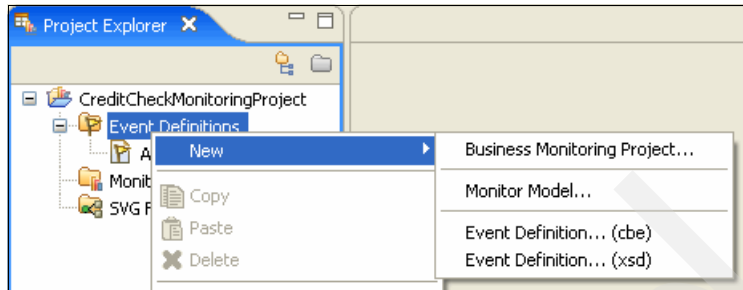

Figure 10-25 New event definition menu
1. In the Project Explorer view (Figure 10-25 on page 690), right-click the **Event Definitions** folder, select **New** → **Event Definition... (cbe)**. We use Common Base Event definitions for this example.
9. Create a second event called CreditCheckRequestFinished. Again, use the new event definition menu as shown in Figure 10-25 on page 690. Add the extended data elements for two pieces of data: